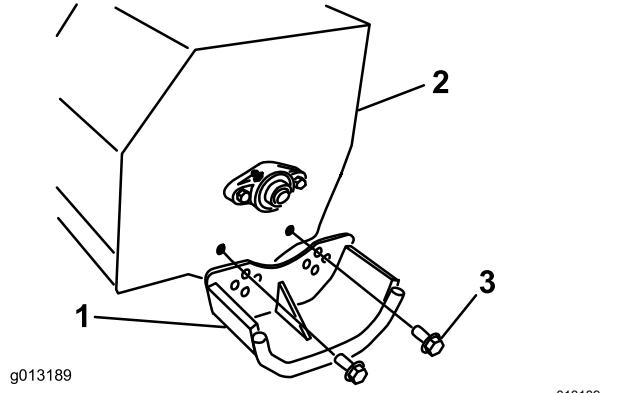

Figure 7
- Remove the bolts that secure the skids to the housing (Figure 7).
- Position the skids equally on both sides and secure them with the bolts (Figure 7).